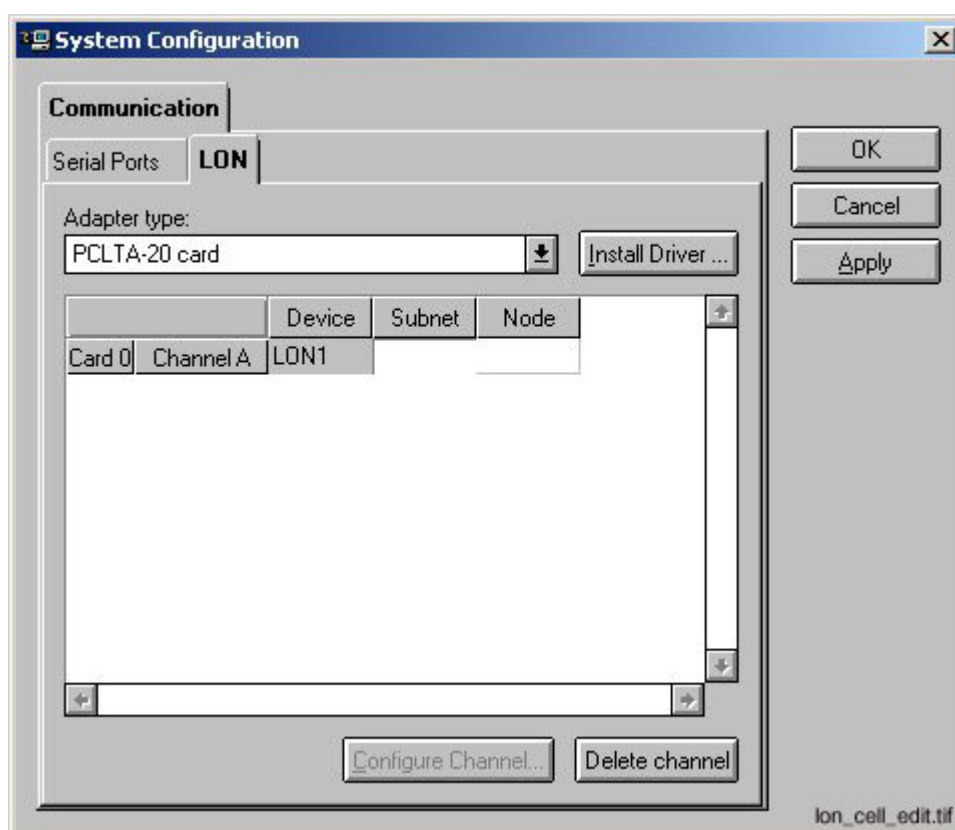

Fig. 4.5.4.7.-1 Subnet cell of channel A is activated
1. Click on the intended channel's Subnet cell with the mouse to activate it (see Figure 4.5.4.7.-1).